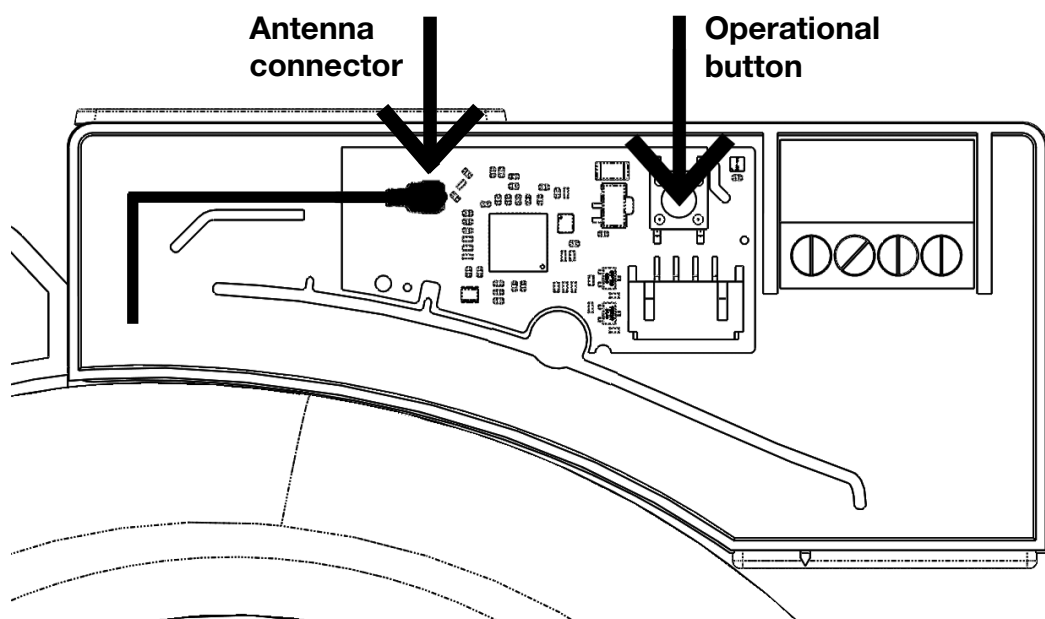

Fig. 1. Antenna connector and operational button
2. Triple click the button on the PCB (Fig. 1).
1. To restore the device to the factory settings, hold down the button located on the PCB for at least 10 seconds (Fig. 1).